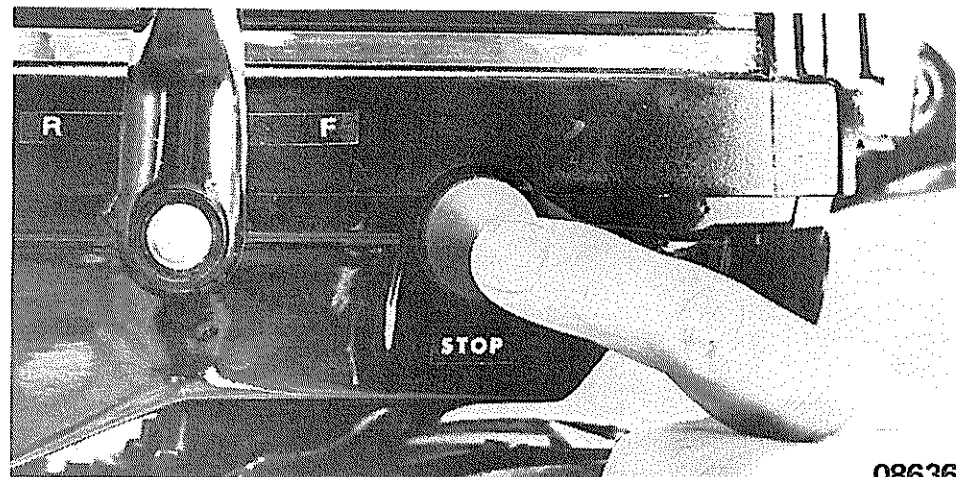

Figure 11. "Stop" Button
If the motor is to remain installed on the boat, ready for immediate restart, stop by shifting into neutral and depressing "Stop" button, as shown in Figure 11 or on single lever remote control unit. Hold "Stop" button down until motor has stopped running completely.
**FOR EMERGENCY STOP:** Depress "Stop Button" on bottom cowl (Figure 11).